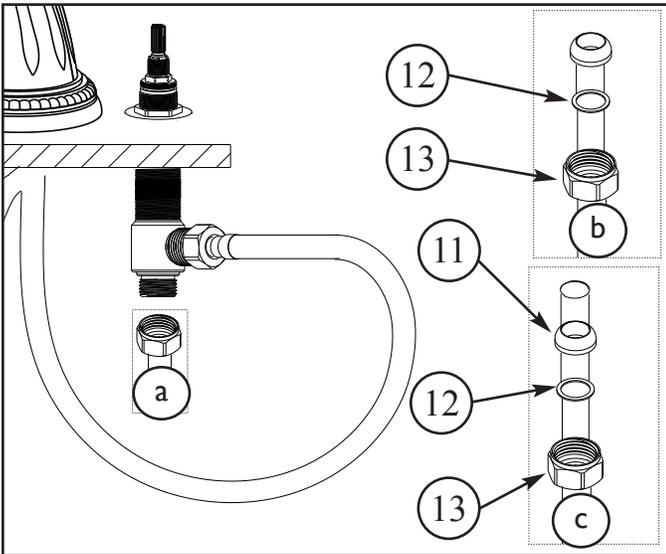

Figure 3
- a. 1/2" IPS flexible riser, discard rubber NOSECONE (11), friction WASHER (12) and coupling NUT (13).
- b. 3/8" or 1/2" O.D. bullnose riser, place friction WASHER (12) and coupling NUT (13) onto bullnose riser.
- c. 1/2" O.D. copper riser, place coupling NUT (13), friction WASHER (12), and rubber NOSECONE (11) onto end of copper riser. See Figure 3. Use adjustable wrench to tighten connections. Do not over tighten and take care not to kink copper supply when bending. Use a tube bender and cutter to properly adjust copper supply. Turn VALVE STEM (3) to OFF position.